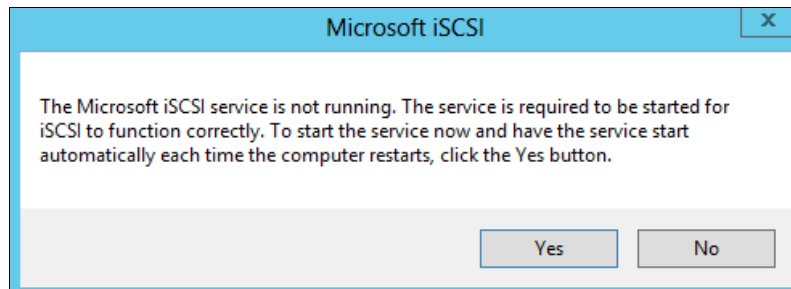

Figure 4-5 Enabling the iSCSI Initiator service on restart
2. If this is the first time you have started the iSCSI Initiator, the window shown in Figure 4-5 should open. Click **Yes** to enable the iSCSI Initiator service, which should now start automatically on restart.